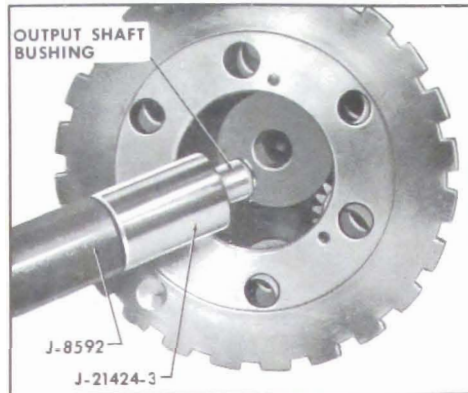

Figure 5-258
1. Using tool J-21424-3 and J-8092 press the new bushing in until J-21424-3 touches the machined surface of the planet carrier assembly. See Figure 5-258.